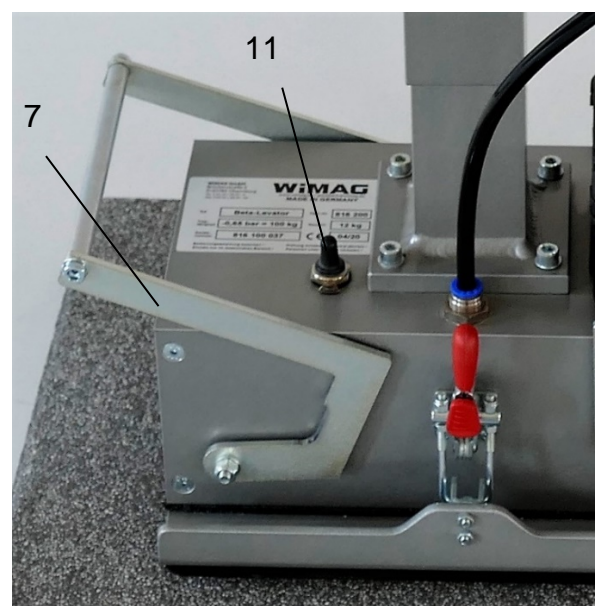

Fig. 5
- Place Beta-Levator in the centre of the new suction plate and close both toggle clamps (10) (Fig. 5).
- Swing resting feet (7) upwards and place the Levator in the centre of the plate to be lifted by two people (Fig. 5).
- Turn on equipment (11). The pump is running (Fig. 5).
Vacuum pump does not work.	<ul style="list-style-type: none"> <li>- Turn switch on (11) (Fig. 5).</li> <li>- Charge rechargeable battery.</li> <li>- Check cable connections.</li> </ul>